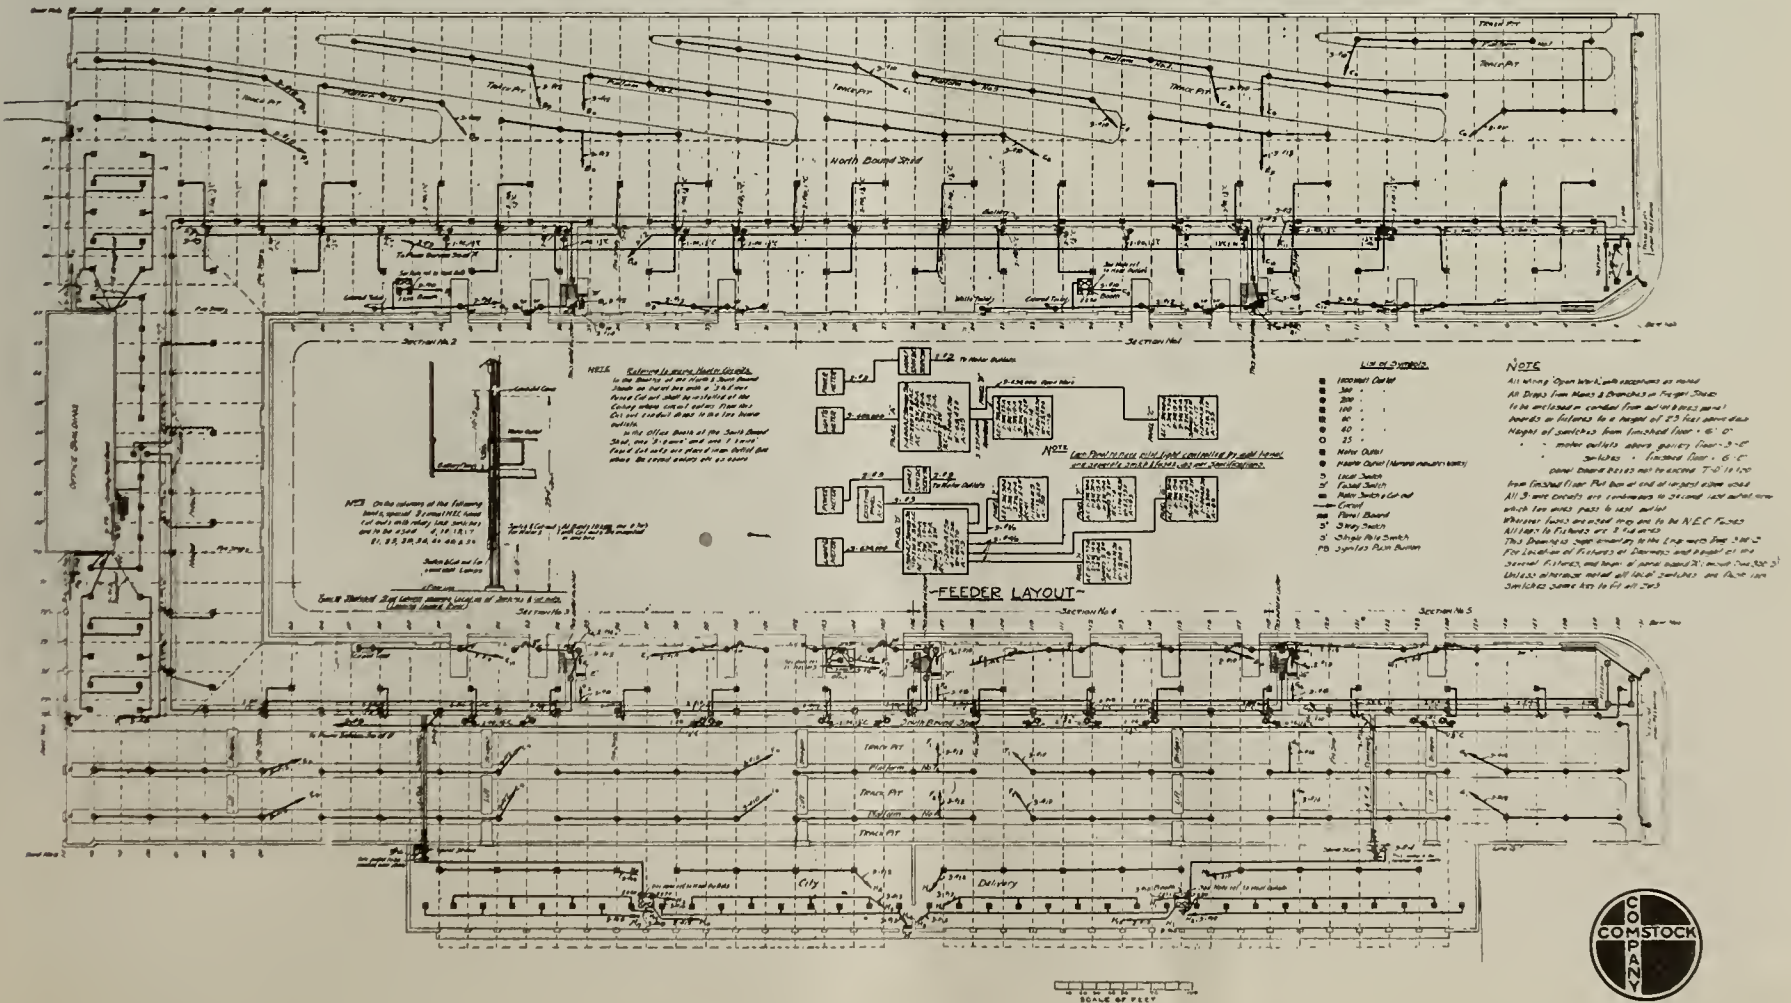

Fig. 3. Wiring Diagram
The service to the building is 110-220 volts, three-wire, sixty cycle, alternating current, for lighting; and 500 volts, two-wire direct current for power. There is very little power used in the building, provision being made for only a few small portable hoisting motors. Figure 3 shows a plan and general wiring diagram of the whole pier. The power line is shown running down each shed. At every column is located a junction box, having mounted therein a small panel with copper bar straps, and easily adjustable terminal posts. The portable outfits are provided with long extra flexible cables, which are connected permanently at one end to the motor starters and can be attached very readily to any junction box temporarily. These junction boxes are installed high up, being accessible from the gallery only, so that the flexible leads can provide quite a large radius, about which the motors may travel, without any of the conductors lying on the floor or interfering with stock or traffic. A fused knife switch, quick break type, with N. E. C. enclosed cartridge fuses, all in a cabinet, is installed on each column, accessible from the floor. This switch and fuses is connected in the line between the mains and the junction panels, so that control can be had from below, where the motor is
operated. The four wires required for the switch, i.e., the mains and leads to the motors, are all run in one conduit between the junction panelbox and the switchboard. This is clearly illustrated in the sectional elevation on the plan, Figure 3. The services are split in halves, one for each shed.
Practically all of the lighting fixtures occur at the under side of trusses, which is shown by the outlet symbols on the plan in Figure 3, the dotted cross lines representing the trusses. These fixtures are made up of conduit stems, hung on a hook and link, with an open hickey at the top. The link is used to allow the fixture to swing, as high winds often sweep the pier. The fixtures are each fitted with suitable sockets and reflectors, of types best adapted for the various cases. A solid tap is made to the circuit wires at the ceiling, to a flexible reinforced cord which is looped down to and into the fixture stem. This can be seen at the truss immediately beyond the gallery in Fig 1. The
The lighting is generally controlled from the panel-boards, except for the 1,000-w. outlets, which are controlled locally by lock switches. By referring to the plan (Fig 3), these can be easily distinguished with the aid of the list of symbols, the fused lock switches being clearly shown at the column nearest each such outlet. A pair of N.E.C. enclosed fuse cutouts are installed in a box at the points designated. Each of the cutouts is equipped with rotary snap switch and fuses, the switches having a lock and key attachment. The outfit is so mounted in the box as to have the lock attachment set flush with the outer face of the door when closed. Two small apertures in the door expose the operating attachments so that the lights can be thrown on or off with the use of the key, without opening the door. The door, when opened, exposes the cutouts for re-fusing purposes. The various wires to the switches are installed in one conduit, there being seven where two switches are located in one box, i.e., three for the feeds (one switch being connected on each side of the three-wire circuit, balancing the same), and two returning to the ceiling from each switch to its fixture. Where one switch only is located in the box, there are but four wires run down. The typical sectional elevation on plan (Fig 3) shows this very clearly.
It may be noted, as a point of interest, how the railroad tracks and loading platforms in the northbound shed, are arranged. This arrangement allows the handling of quite a few more cars than on the other shed, where the usual scheme is applied. There is a gallery platform running all around the entire pier for the use of passengers, as shown in Figure 3.
the feeder to each individual panelboard. A fused switch and meter is similarly arranged for power. The arrangements made for the other shed are practically identical with this one. The feeder layout in Figure 3 shows the entire system and service from the main panels out.
general three types of heating units have been developed by the manufacturer to cover industrial heating devices not requiring more than 950 degrees fahr. These units are (1) the air heater unit (Fig. 1) the hot plate or cast-in or embedded unit (Fig. 2) and the immersion type unit (Fig. 3). These units are generally of the metallic resistor type, this resistor being of the nicklechrome combination which is free from corrosion in the air at temperatures much in excess of their normal operating temperatures. These units are designed so that they may be used singly or in combination to take care of standard voltage such as 550, 440, 200, 110 alternating or direct current.